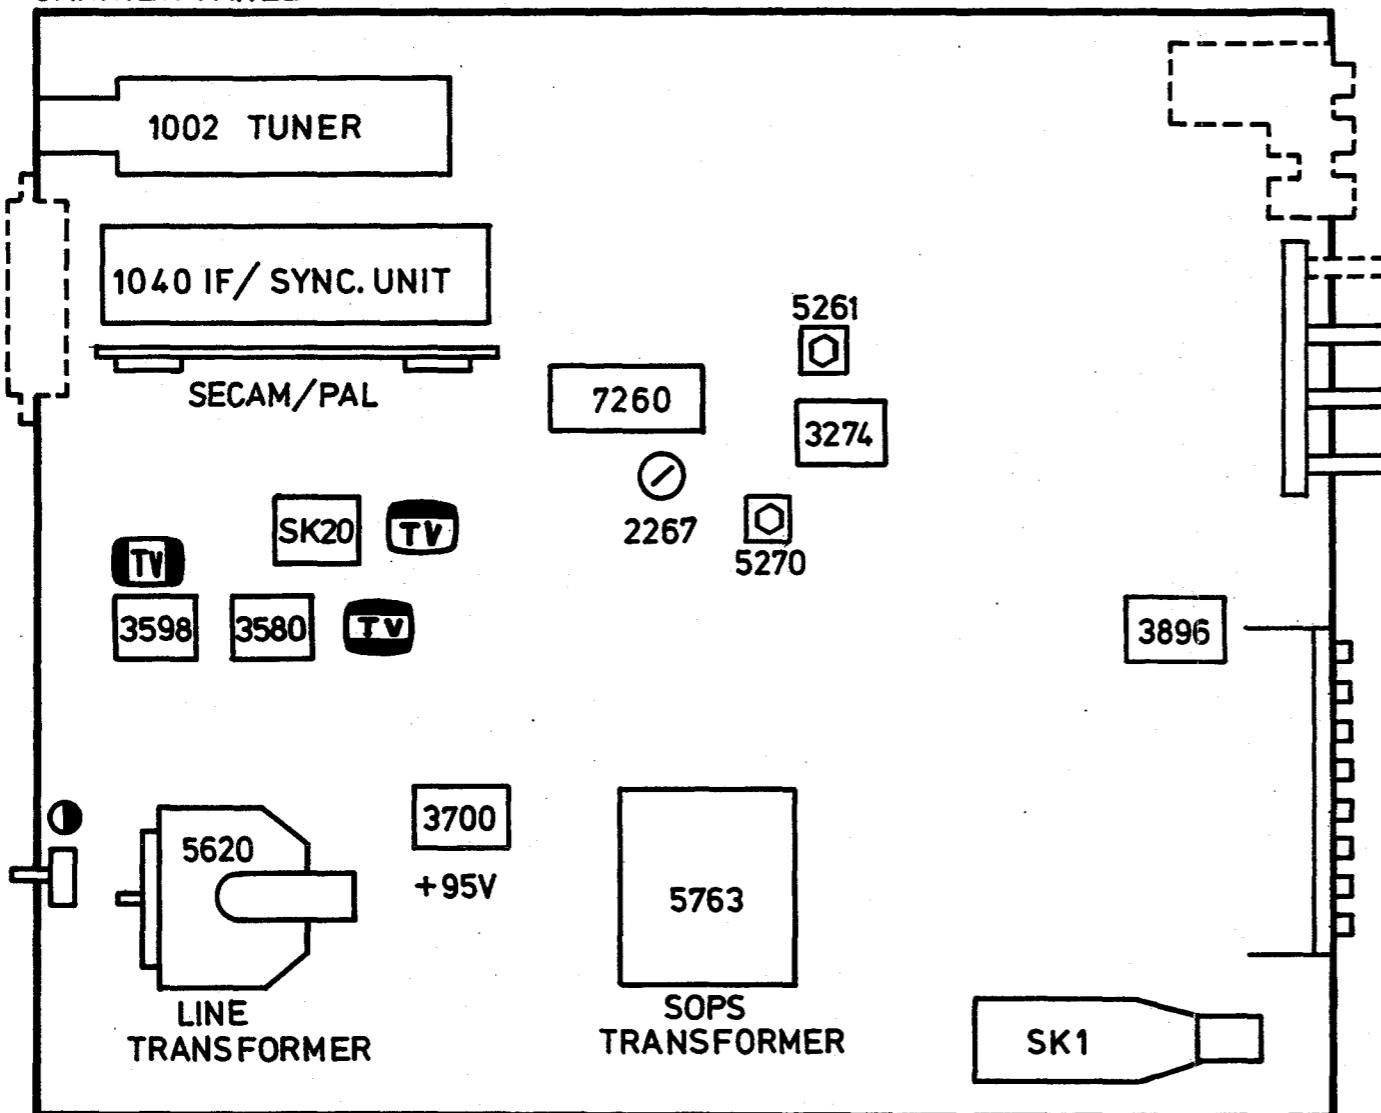

Fig.4
A. ADJUSTMENTS TO THE MAIN PANEL (Fig. 4)